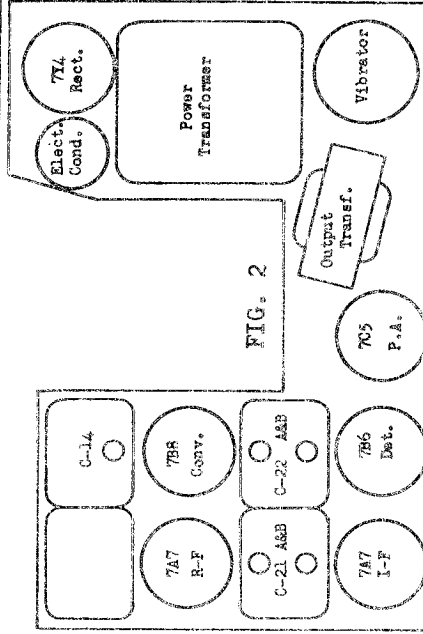

FIG. 2
3. Adjust trimmers C-22 A&B and C-21 A&B to maximum response. (See Fig. 2).
4. Adjust code rejector trimmer C-14 for minimum response. (See Fig. 2).